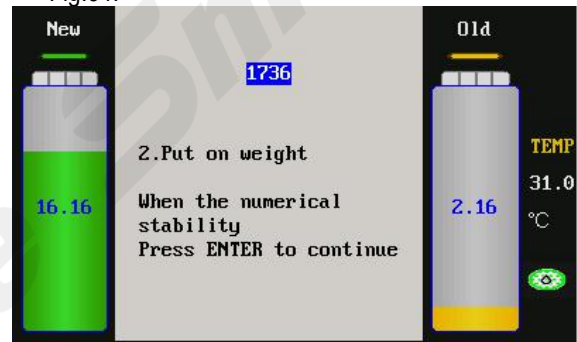

Fig.34
- 4) Remove the new fluid tank. When the value displayed on the interface is stable, please press OK key to save the data. The interface is as shown in Fig.34.